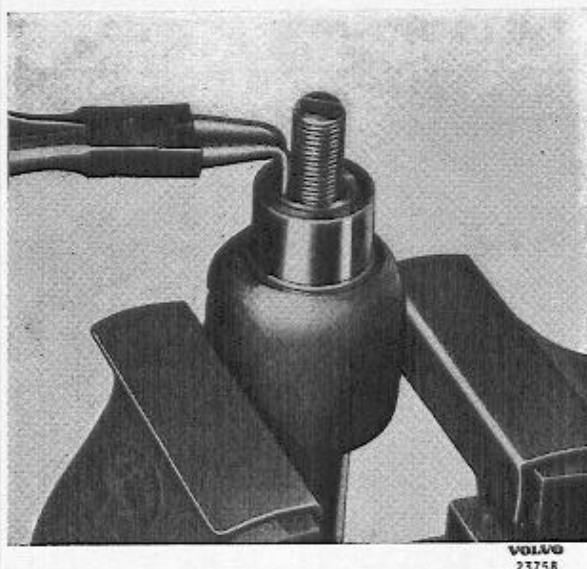

Fig. 25. Removing the adjusting screw.
3. Remove the bolts and lower cover (17). Take care of the adjusting shims (20).
4. Knock the steering column (10) carefully so that the lower bearing outer race comes out of the housing. Remove the steering column (10) with bolt and bearing.
5. Slacken the locknut (3) and screw the adjusting screw (2) out of the cover. The adjusting screw can be removed from the pitman arm shaft after the locking ring has been taken off, see Fig. 25.